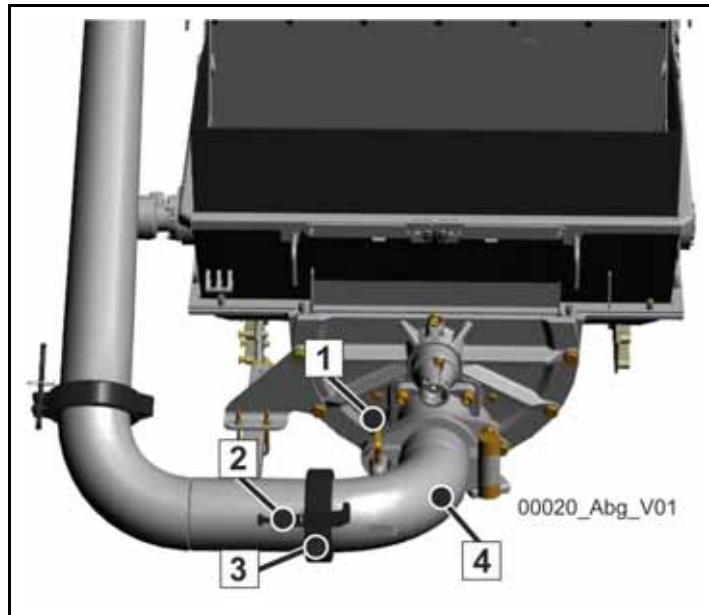

Fig. 317
- b) Remove the wedges (1+2) and the coupling (3) for truck-mounted concrete pumps.
- Swivel the outlet for the boom (4) to the side and secure with a wedge (1), (**Fig. 317**).